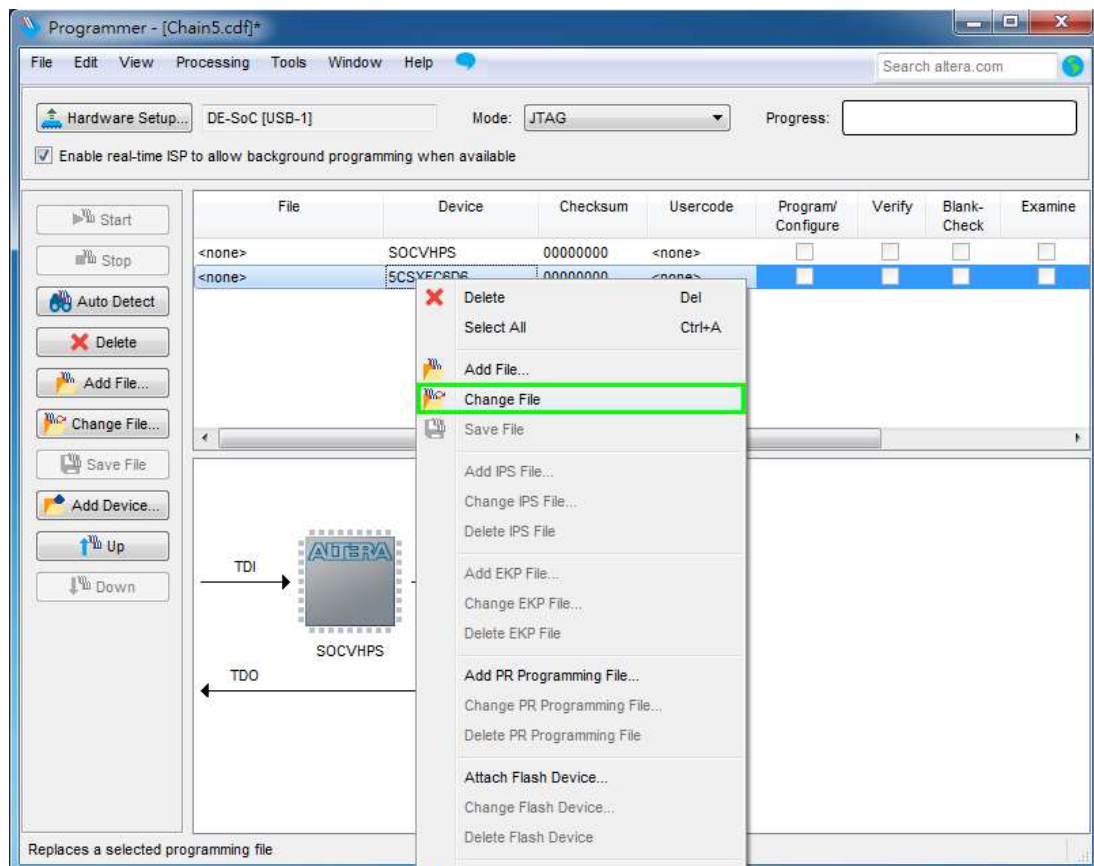

Figure 3-6 Open the .sof file to be programmed into the FPGA device
- Right click on the FPGA device and open the .sof file to be programmed, as highlighted in **Figure 3-6**.